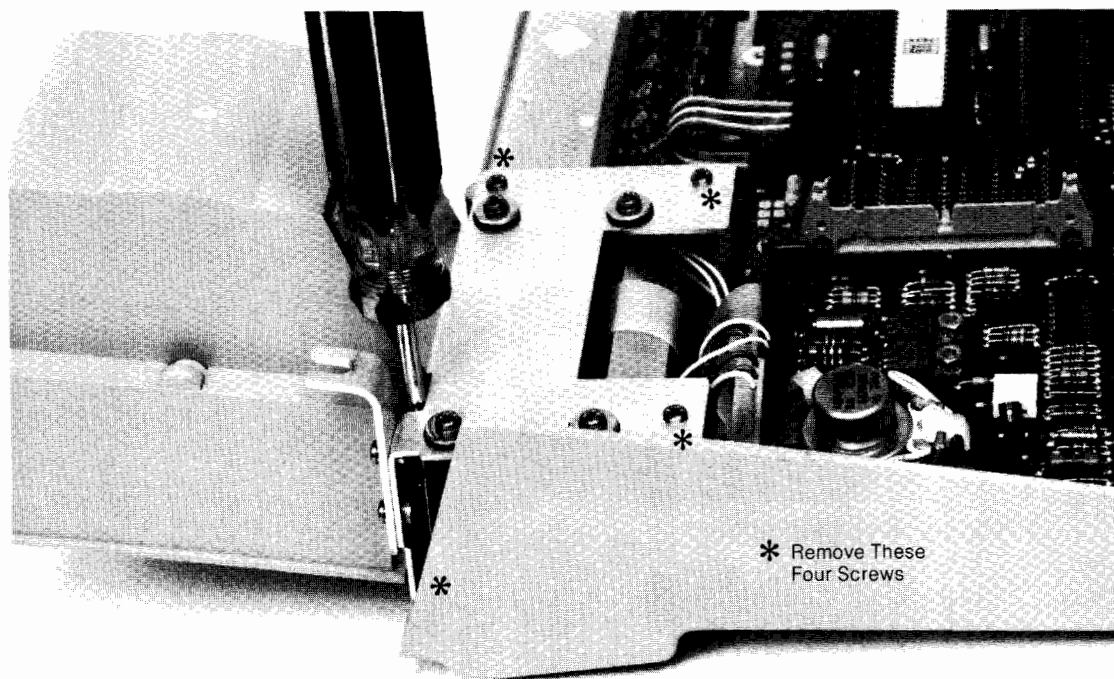

Figure 2-7 Printer Assembly Removal
2. Remove the four screws that attach the printer to the bezel. Three of them are visible in Figure 2-7; the screwdriver is on the fourth screw.